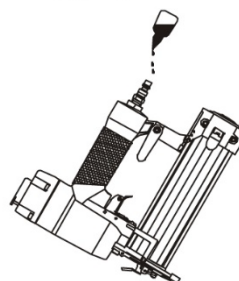

Fig 2
1. Check whether the tool needs to be lubricated. If necessary, add two drops of oil into the compressed air connection, see fig. 2. If you are using a lubricator, check whether you need to top up with oil.